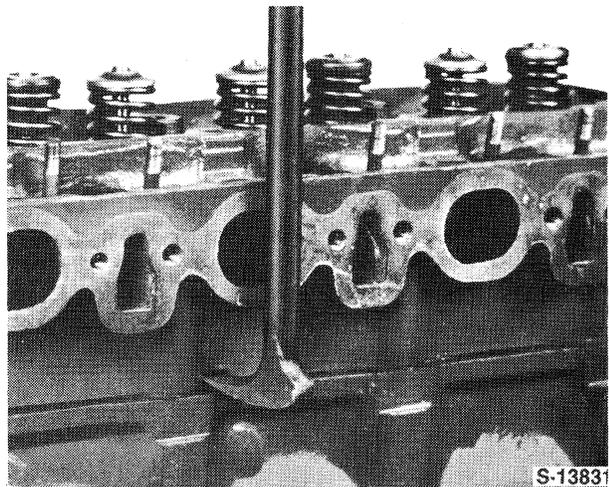

Figure 6
21. Lift the cylinder head from the block. If necessary, lever the head off the block at the pads provided, taking care not to damage the cylinder head or block surfaces, Figure 6.